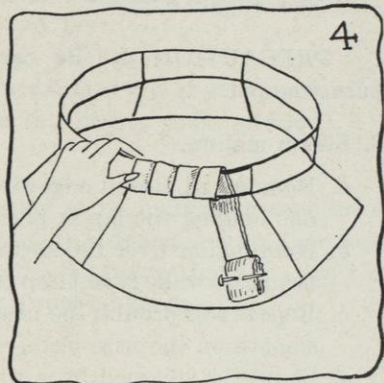

FIG. 4.
- (2) Wrap the two headsizes at the same time (see Figure 4) with a strip of maline already folded and rolled, as shown in Sections 4 *a* and *b*, page 248.
- (3) Show your work to your teacher when you have about 4 inches wound.
- (4) As soon as your teacher approves, continue until you reach the place where you started, and sew to prevent it from opening.